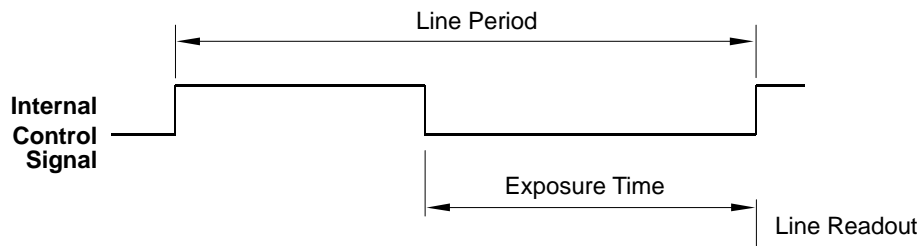

Fig. 28: Free Run, Programmable Mode
- In **free run programmable** mode, line acquisition begins on the rising edge of the ExSync signal. The pixels are exposed and charge is accumulated when the internal control signal is low. The pixel values are read out of the sensor on the rising edge of the internal control signal as shown in Figure 28.